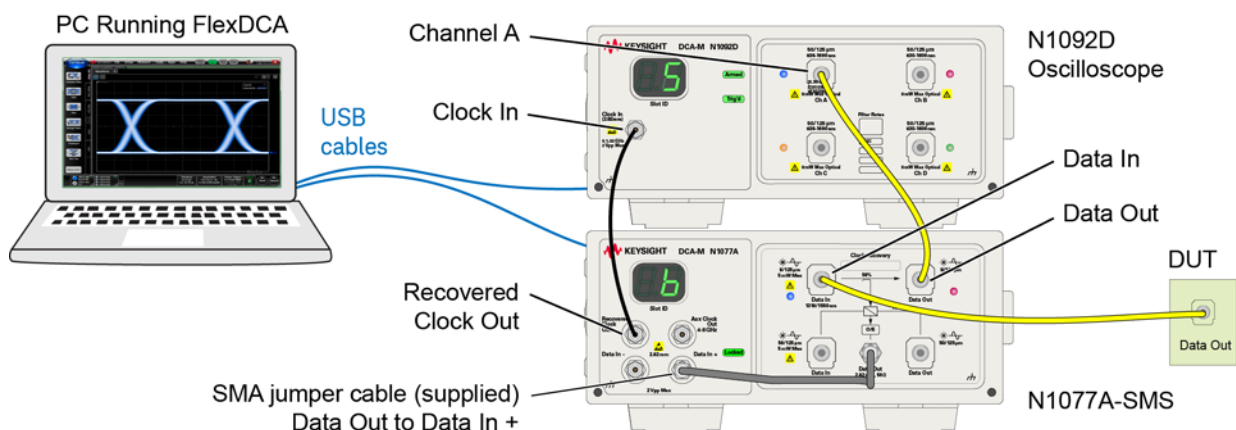

Figure 13 Typical Connection Setup
- 2 Connect the N1076/7A as shown in Figure 13. If connecting to an 86100D, be sure to connect the USB cable to an 86100D *rear-panel* USB port.